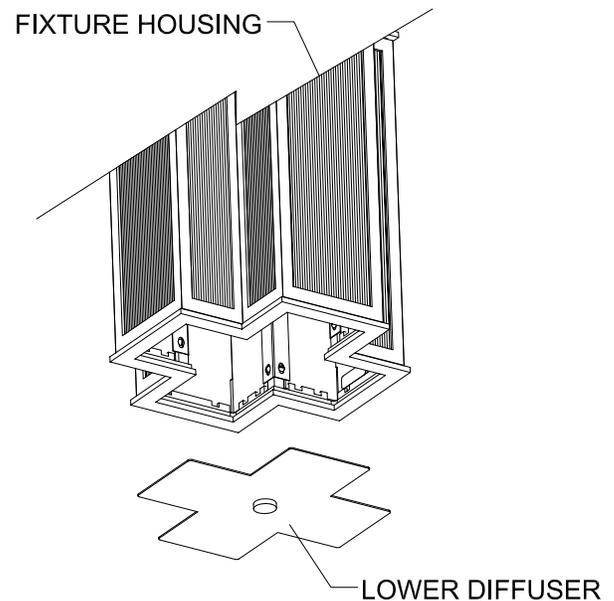

Figure 4
Step 10 Install glass diffuser panels into the housing. Position the diffuser so that the ribbed portion of the glass faces outward. The diffuser can be lifted into position behind upper retainer bracket and then lowered into channel bracket on the bottom. Install the lower diffuser through the opening in the bottom of the housing and orient into position. (See Figure 4)